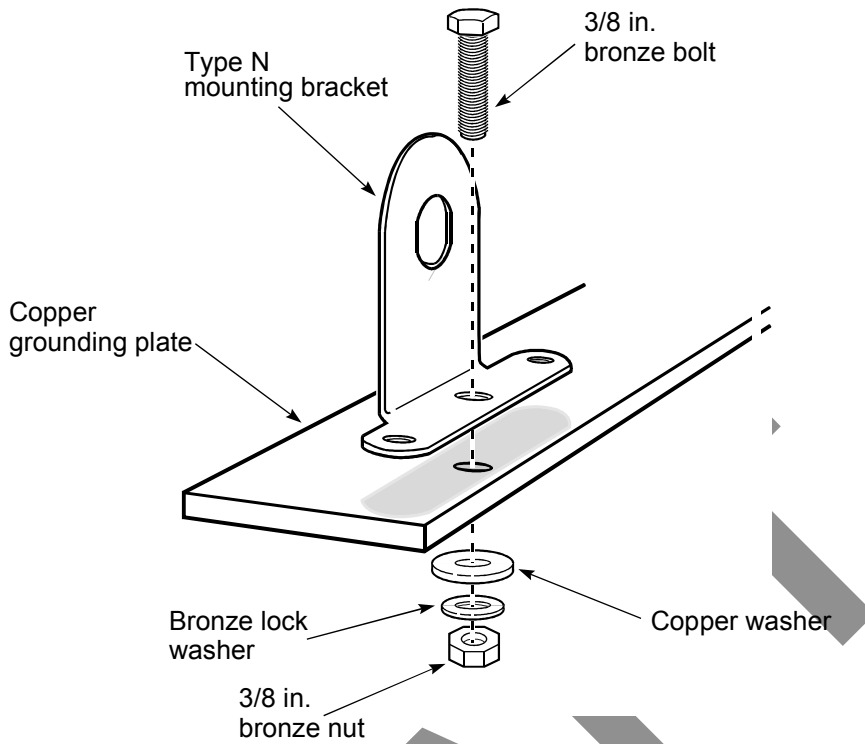

Figure 24 – Attach the mounting brackets to the copper grounding plate
1. Attach a mounting bracket to the copper grounding plate for each lightning arrester used in the system, as shown in *Figure 24*.